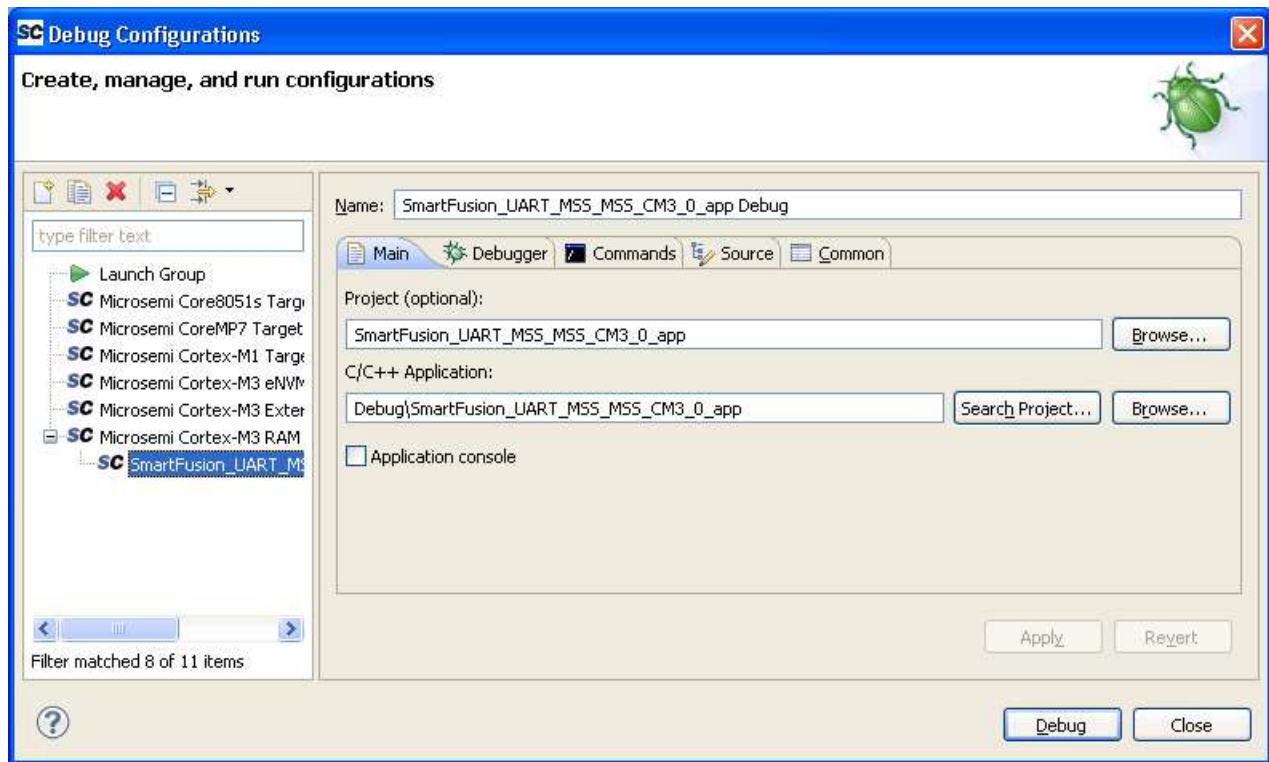

Figure 25 · Debug Configurations Window
2. Double-click on **Microsemi Cortex-M3 RAM target**. The **Debug Configurations** window is displayed, as shown in Figure 25.